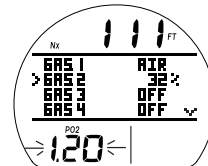

Fig. 23B - SET PO2 (after FO2 setting is saved)
- S (< 2 sec) - save the FO2 setting, and flash the PO2 digits if Nitrox (Fig. 23B), or revert to SURF MAIN if Air.